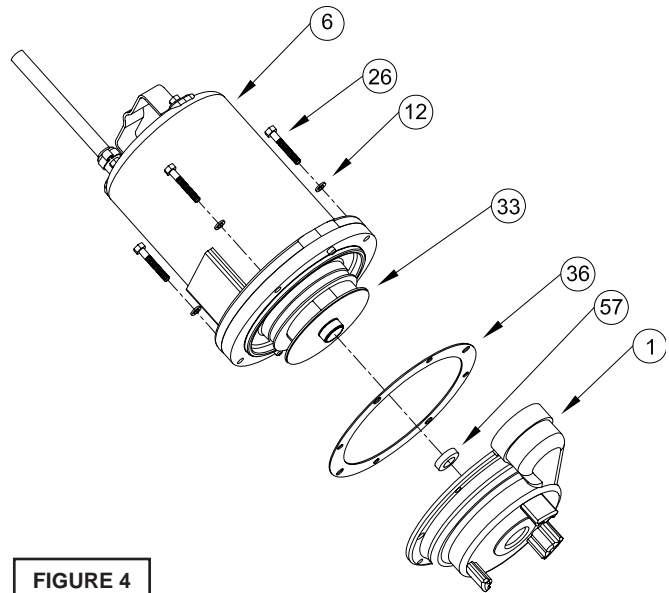

FIGURE 4
To clean out volute (1) or replace impeller (33) or U-cup (57), disconnect power, remove hex bolts (26), and lockwasher (12), vertically lift motor and seal plate assembly from volute (1), see Figure 4. Clean out body if necessary.